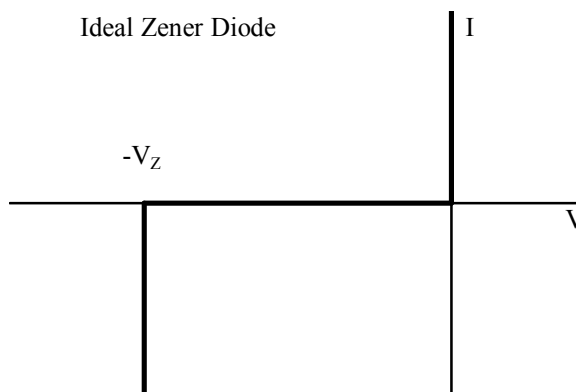

Figure D-2
*Characteristic curve of a Zener diode :* The characteristic curve of a Zener diode is similar to that of a regular diode. The difference is that, whereas regular diodes will reach the breakdown region at voltages way beyond the operating range of your circuit, Zener diodes are designed to “break down” (minus) the Zener voltage. You use this feature of the Zener diode as part of the design of your circuit. The characteristic curve for an ideal Zener diode is shown in figure D-2. In a real Zener diode, the forward bias region occurs at the same voltage as a regular diode, 0.7V. The reverse bias voltage of a Zener diode, is known as the Zener voltage. Although the breakdown region occurs at a negative voltage, the Zener voltage is always a positive number (the absolute value (or negation) of the actual breakdown voltage.) Zener diodes are rated by this Zener voltage. For example, a 10V Zener diode will reach breakdown at around -10V and a 5V Zener diode will reach breakdown at about -5V.